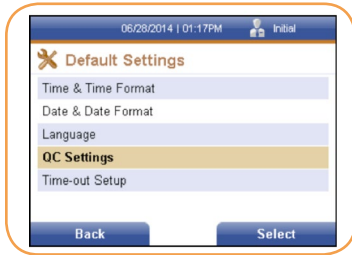

FIGURE 15
3. Enter the desired numbers in the text fields using the numeric keys on the reader, then press the right soft key to accept the changes made, or select the left soft key to discard any changes made to the time selections. Either selection will return the user to the previous menu (Figure 15).